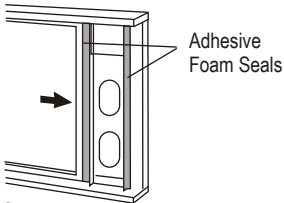

Fig. 11
3. Cut another piece of Adhesive Foam Seal to the proper length and attach it to the other side of the Window Slider Kit. Close the sliding sash securely against the side of the Window Slider Kit (Fig. 11).